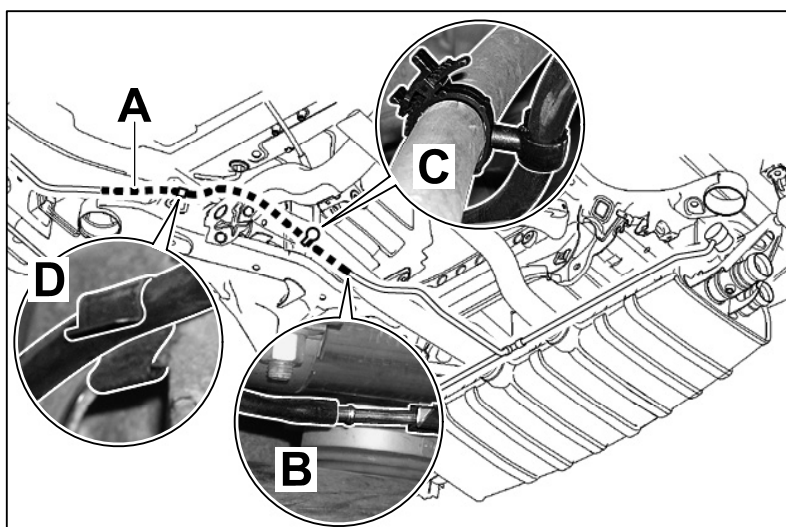

Figure 5
- 3.1 Route rear-axle vacuum line ⇒ *Figure 5 -A-* from the connection at the rear silencer control line over the assembly carriage to the longitudinal member.
- 3.1.1 Fasten rear-axle vacuum line to the handbrake line with a tie-wrap ⇒ *Figure 5 -C-*.
- 3.1.2 Fasten rear-axle vacuum line to the assembly carriage with a clip ⇒ *Figure 5 -D-*.
- 3.1.3 Slide rear-axle vacuum line onto the rear silencer control line ⇒ *Figure 5 -B-*.